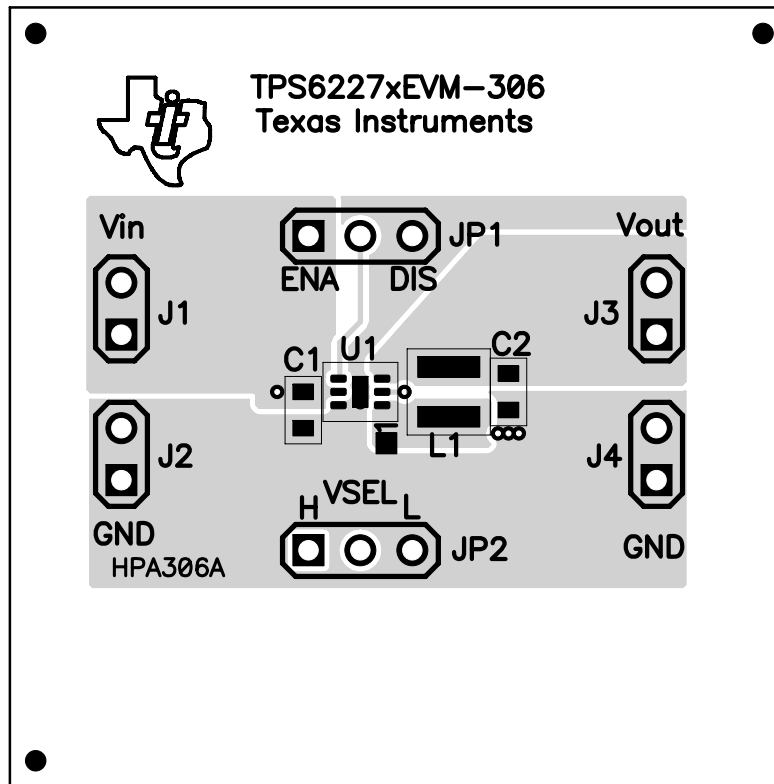

Figure 8. Assembly Layer
(2) See TPS6227xEVM-306 Schematic and Figure 8 for jumper and pin names.
Board layout is critical for all high frequency switch mode power supplies. Figure 8 through Figure 10 show the board layout for the TPS6227XEVM-306 printed wire board (PWB). The nodes with high switching frequencies and currents are kept as short as possible to minimize trace inductance. Careful attention has been given to the routing of high frequency current loops and a single point grounding scheme is used. See the TPS62270 data sheet (SLVS799), *2.25 MHz 400-mA Step Down Converter With Selectable VOUT*, for specific layout guidelines.